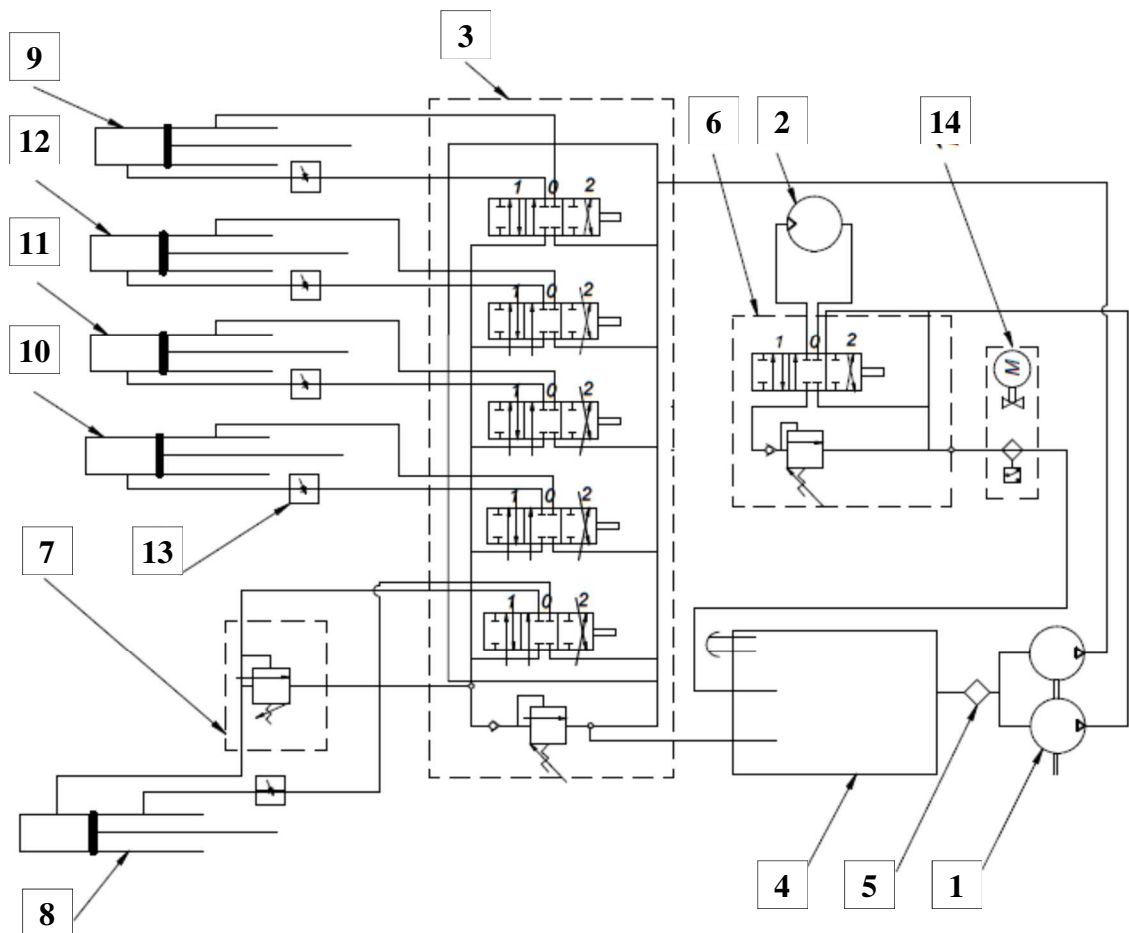

Fig. 21. Diagram of proportional hydraulic drive of the extension arm
Geared pumps power two independent circuits: machine's drive circuit with capacity of about 100 l/min and hydraulic cylinders' drive circuit with capacity of 21 l/min (42 l/min. - EP). In machine's drive circuits wires have $\varnothing 16$ mm diameter, while in cylinders' control circuit $\varnothing 10$ mm. Control of oil circulation is possible owing to hydraulic distributors (3, 6). Oil tank (4) of adequate capacity. In extension arm-type mower's hydraulic engine's drive circuit there is suction oil filter (5) with capacity of 70 l/min. On gauge plate cylinder (8) there is sweep valve (7) mounted to protect the mower's extension arms from overloading (**Fig. 21**) Hydraulic cylinders (9-12) with throttle choke valves (13) control the extension arm.